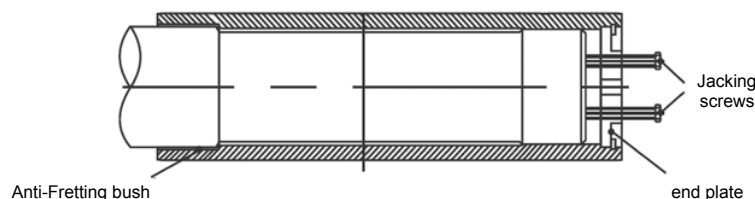

Figure 6: Removing Gear Unit
5.6.2.3.3 Withdraw gear unit from driven shaft (See Figure 6).